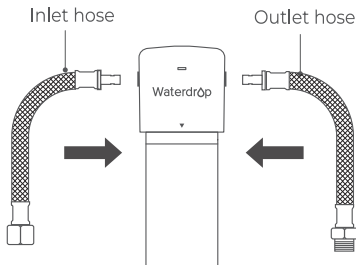

Figure 1
- 1. Connect the inlet hose and the outlet hose to the filter head. (**Figure 1**)